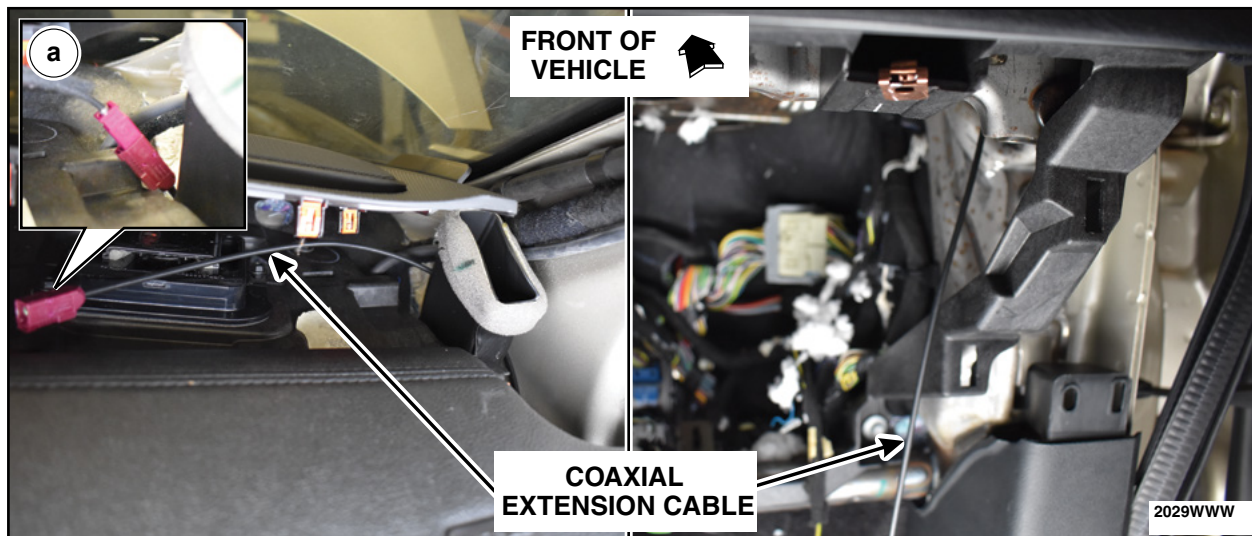

FIGURE 8
10. Route the coaxial extension cable. See Figures 8 and 9.